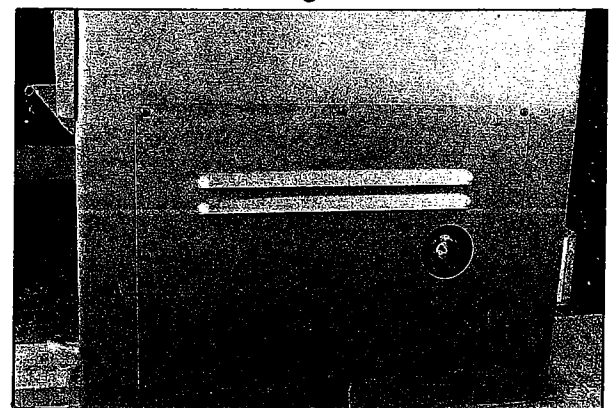

Fig. 9
1. Remove access cover (A, Fig. 9) on tailstock end. Make sure coolant tank and pump have not shifted during transport and are located properly under the drain in the drip pan.